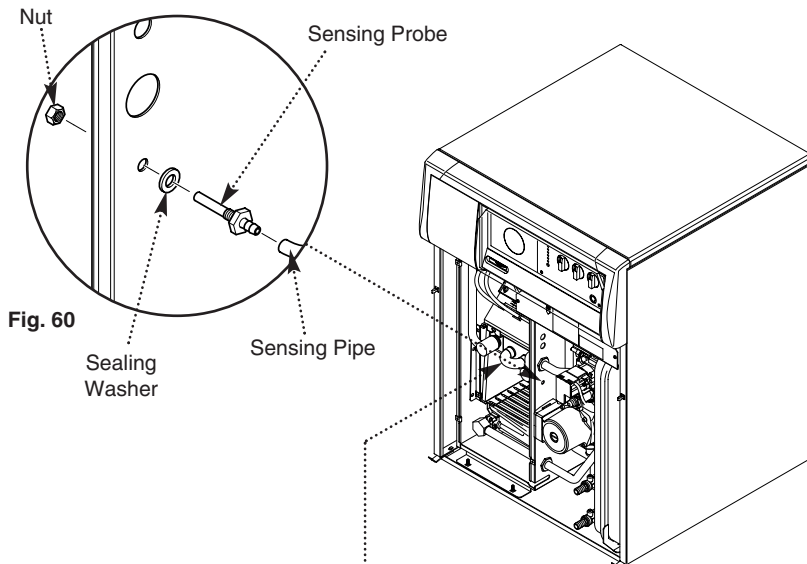

Fig. 60
11.9 Heat Exchanger (Figs. 60 & 61)